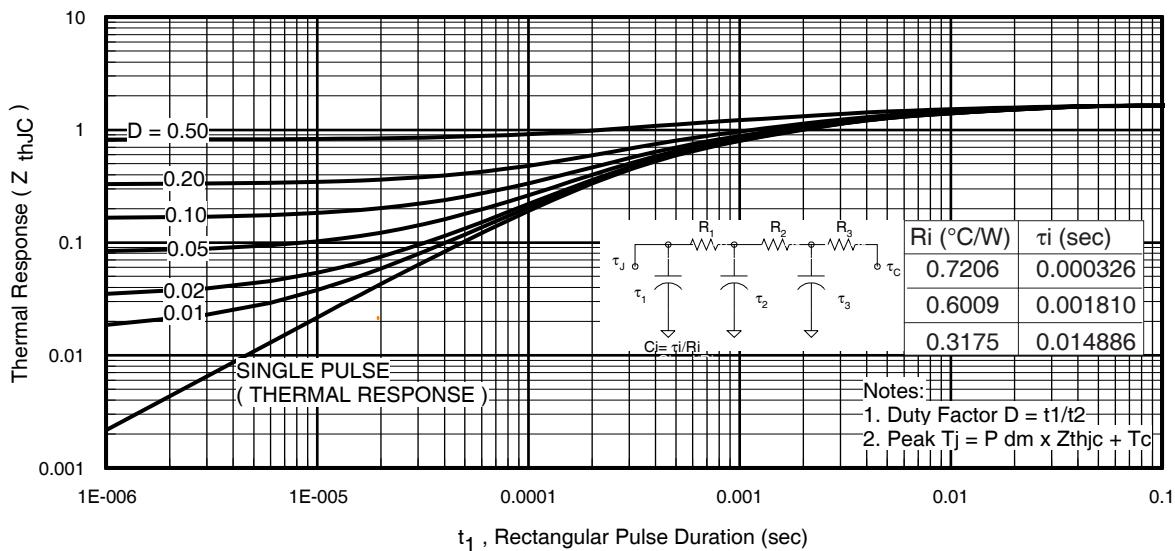

Fig 11. Maximum Effective Transient Thermal Impedance, Junction-to-Case
$Z_{thJC}(D, t_{av})$ = Transient thermal resistance, see figure 11)
- ① Repetitive rating; pulse width limited by max. junction temperature. (See fig. 11).
- ② Limited by T_{Jmax} , starting $T_J = 25^\circ C$, $L = 0.11mH$ $R_G = 25\Omega$, $I_{AS} = 37A$, $V_{GS} = 10V$. Part not recommended for use above this value.
- ③ Pulse width $\leq 1.0ms$; duty cycle $\leq 2\%$.
- ④ $C_{oss\ eff}$ is a fixed capacitance that gives the same charging time as C_{oss} while V_{DS} is rising from 0 to 80% V_{DSS} .